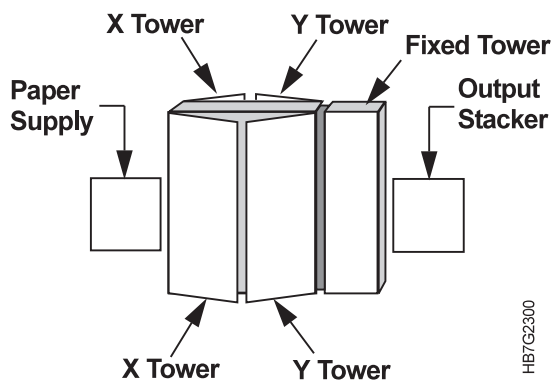

Figure 302. Right Side View of the InfoColor 70
- 2 Open the doors on both sides of the X and Y towers, as shown in Figure 302.